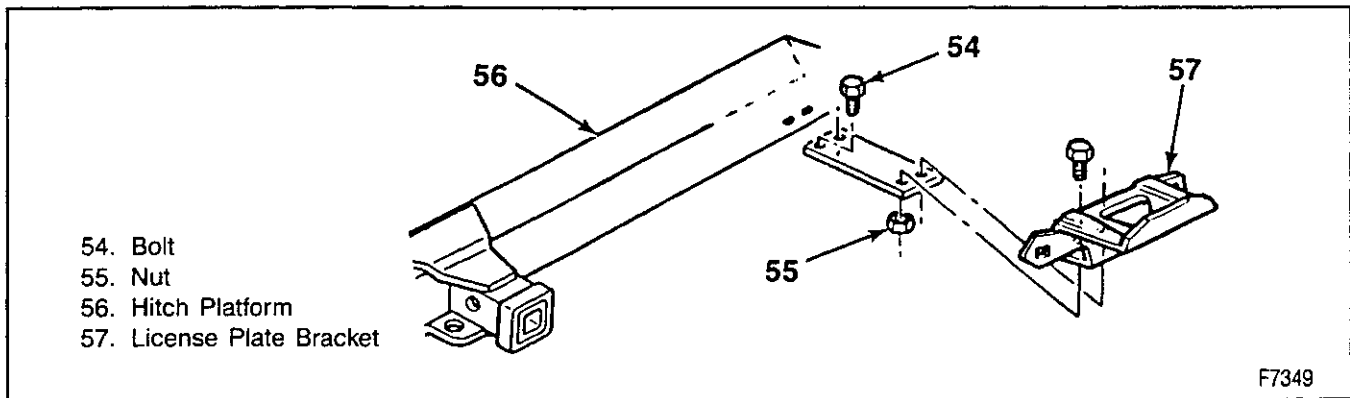

Figure 12—Hitch Platform License Plate Bracket
Remove or Disconnect (Figures 12 and 13)
1. Bracket plate to hitch platform bolts and nuts (figure 12).
Install or Connect (Figures 12 and 13)